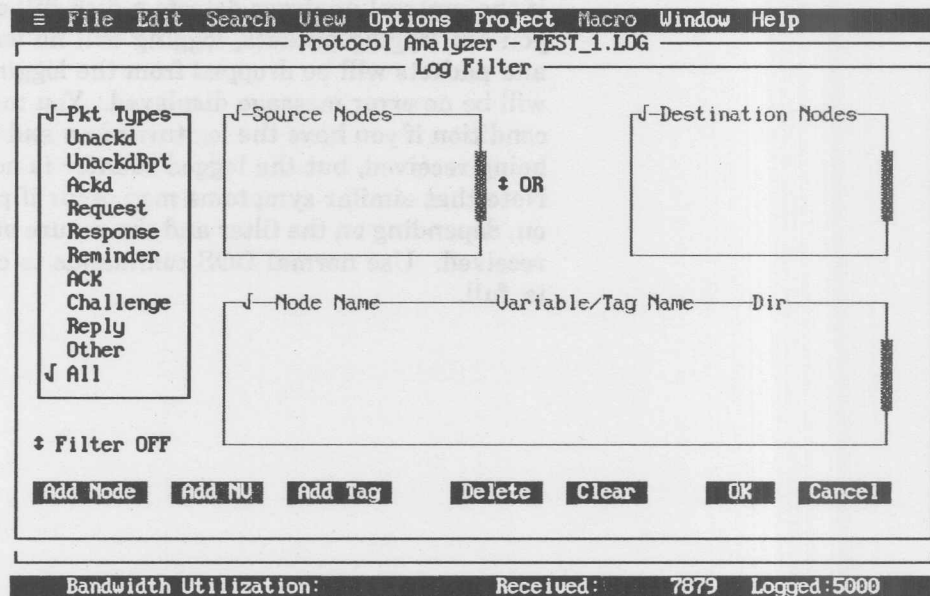

Figure 12-2. Log Filter Dialog Box
- 2 Select the Filters option to open the Log Filter dialog box (see figure 12-2). This dialog box has four subwindows: Packet Types, Source Nodes, Destination Nodes, and Variables and Tags. In addition, there are seven command buttons: Add Node, Add NV, Add Tag, Delete, Clear, OK, and Cancel, and two toggle switches: Filter ON/OFF, and AND/OR.